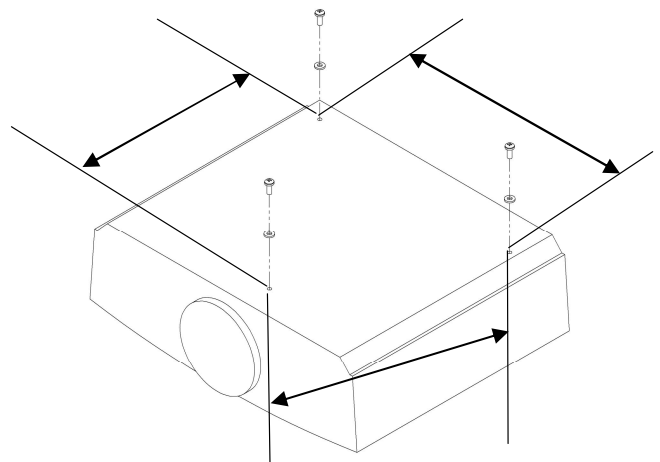

Figure 6. Measure Width and Length Between Mounting Holes in 3-Hole Projector (Example)
- b. If your projector is equipped with three mounting holes, measure the width and length between the mounting holes (see Figure 6).